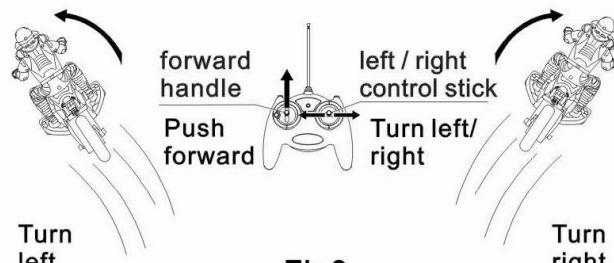

Fig9
4. When the body in moving, push the left / right control stick, the body will be to the left / right. (Figure 9)